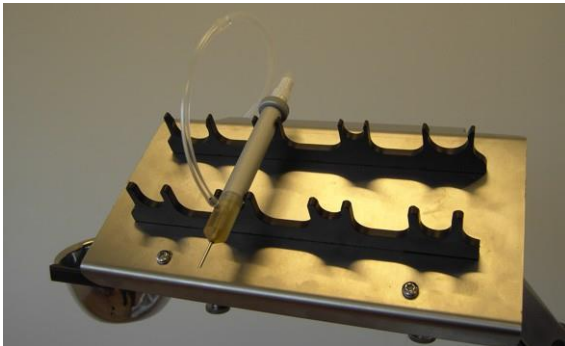

Figure 3-84. Placing the Implantation Handpiece on the Handpiece Holder
8. Place the implantation handpiece on the handpiece holder, as shown in Figure 3-84.